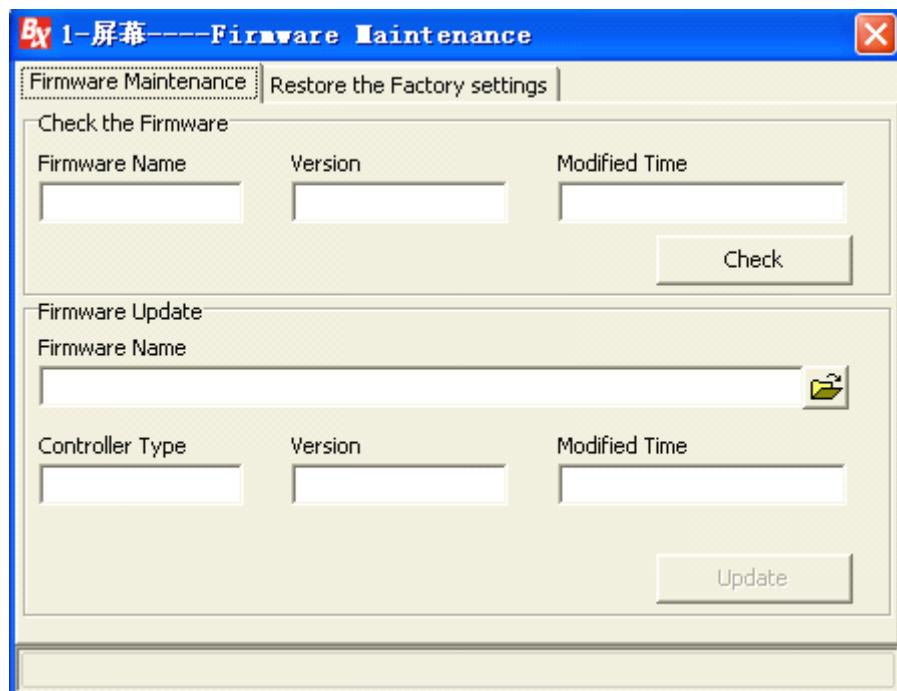

figure 5-28
- ◆ Click “firmware maintenance” to popup the dialog box as shown in figure 5-3, input password “888” to popup the firmware maintenance interface as shown in figure 5-28.